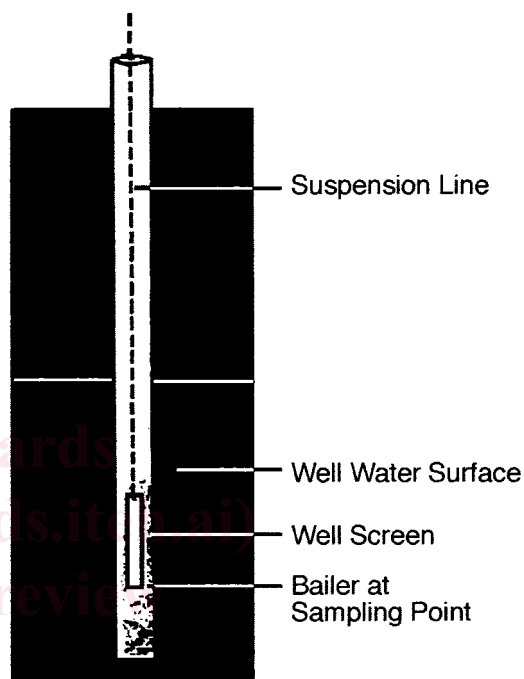

FIG. 1 Bailer Sampling a Screened Well
- 4.1 A clean bailer is lowered into the liquid to be sampled using a suspension line (see Fig. 1). The bailer chamber is
5.1 A bailer is a device for obtaining a sample from stratified or un-stratified waters and liquid wastes. The most common use of a bailer is for sampling ground water from single-screened wells (Fig. 1) and well clusters (see Guide D 4448).